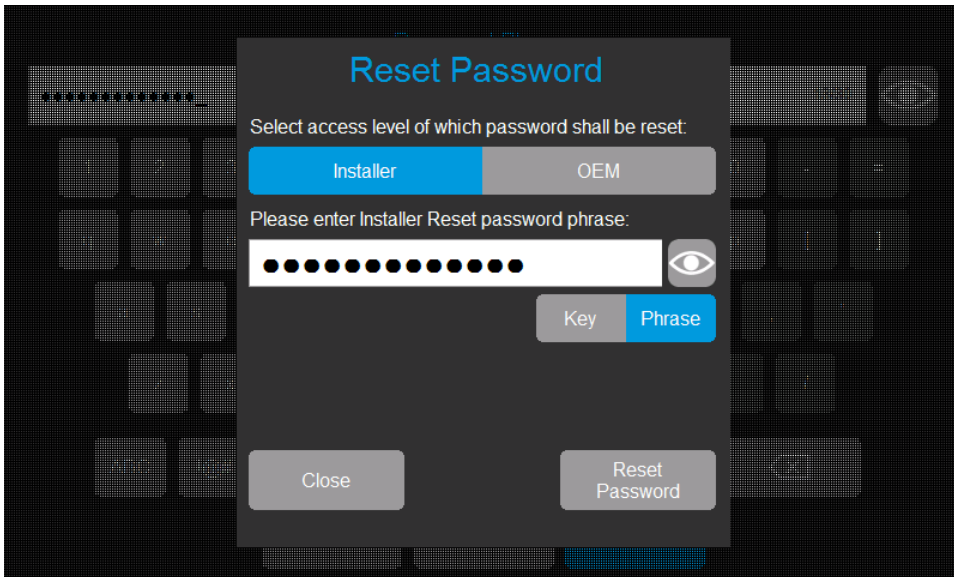

Fig. 92: Reset Password dialog box with entered password.
6. Select the Reset Password button. Refer to Fig. 92.